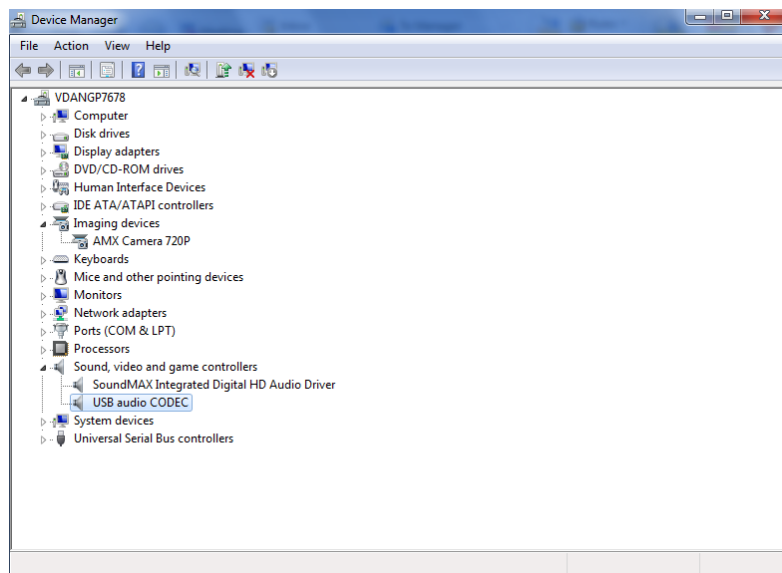

FIG. 15 Touch Panel camera appearing in the Devices listing
5. The camera will appear in the *Devices* listing (FIG. 15).